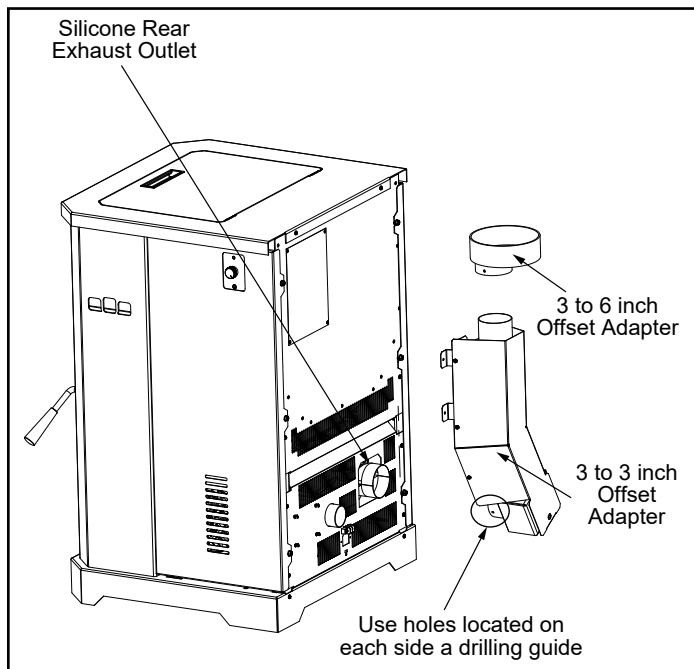

Figure 22.1
1. Put a layer of high temperature silicone on the 3 inch (76mm) exhaust outlet. Do not put silicone inside of pipe (**Figure 22.1**).
2. Slide the top vent adapter onto the rear exhaust outlet and adjust the assembly to a vertical position (**Figure 22.1**).
4. Drill 2 holes with #26 drill bit through the rear exhaust outlet using the 2 holes already in the short horizontal pipe in the top vent adapter as a guide. Install the 2 screws (**Figure 22.1**).
6. To clean the top vent adapter open the clean-out cover (**Figure 22.1**).